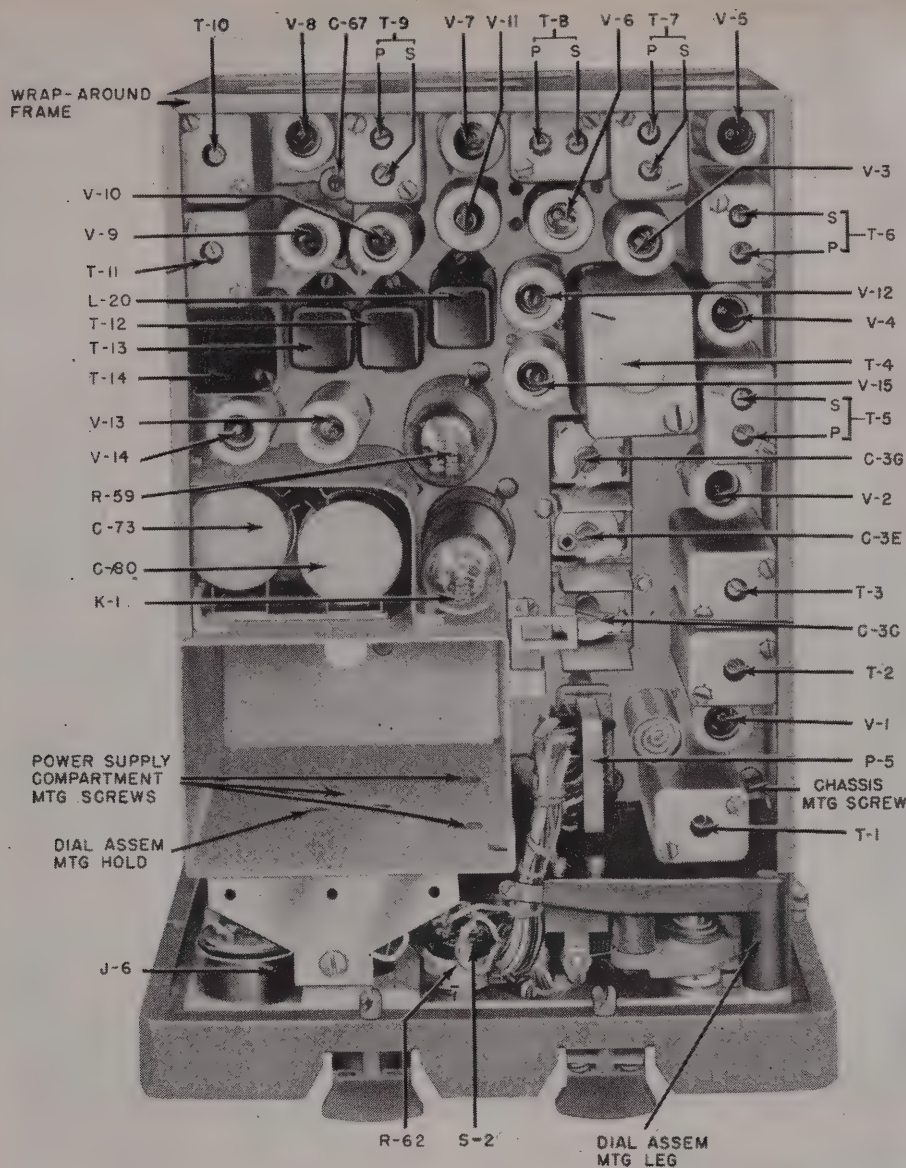

Figure 50. Auxiliary receiver panel-chassis assembly, top view.
- (2) If the vibrator is good, check all the receiver tubes (fig. 50).
- (3) If the tubes are good, the system cabling will have to be checked (par. 89).
b. TERMINAL RELAY AND BALLAST TUBE. To gain access to the thermal relay and ballast tube, remove the panel-chassis assembly from the case (par. 96). Both the relay and the ballast tube are located on the top of the chassis (fig. 50). Either component can be removed in the same manner as any standard octal-base tube. Pull straight upward; do not rock or jiggle the tube in its socket.
case is removed (fig. 50). To remove any tube, first remove the shield and then use a tube puller. Do not rock or jiggle the tubes; they may become damaged easily by careless handling.